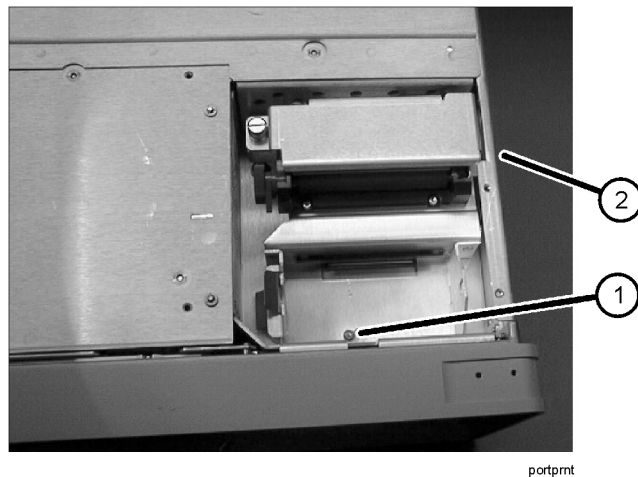

Figure 3-39. Separating the printer from the instrument chassis
- 3 Use the T-10 TORX driver to loosen the screw near the front of the printer two full turns. Do not remove the screw. See ① in Figure 3-39 below.
- 4 From the front of the instrument, slide the printer to the left away from the disk drive to separate the tab on the printer from the slot on the chassis. See Figure 3-39 below.
- 2 Use the T-10 TORX driver to loosen the screw near the front of the printer two full turns. Do not remove the screw. See ① in Figure 3-39 below.
- 3 Use the T-10 TORX driver to remove the screw from the right side of the instrument. See ② in Figure 3-39 below.
- 4 From the front of the instrument, slide the printer to the left to separate the tab on the printer from the slot on the chassis. See Figure 3-39 below.